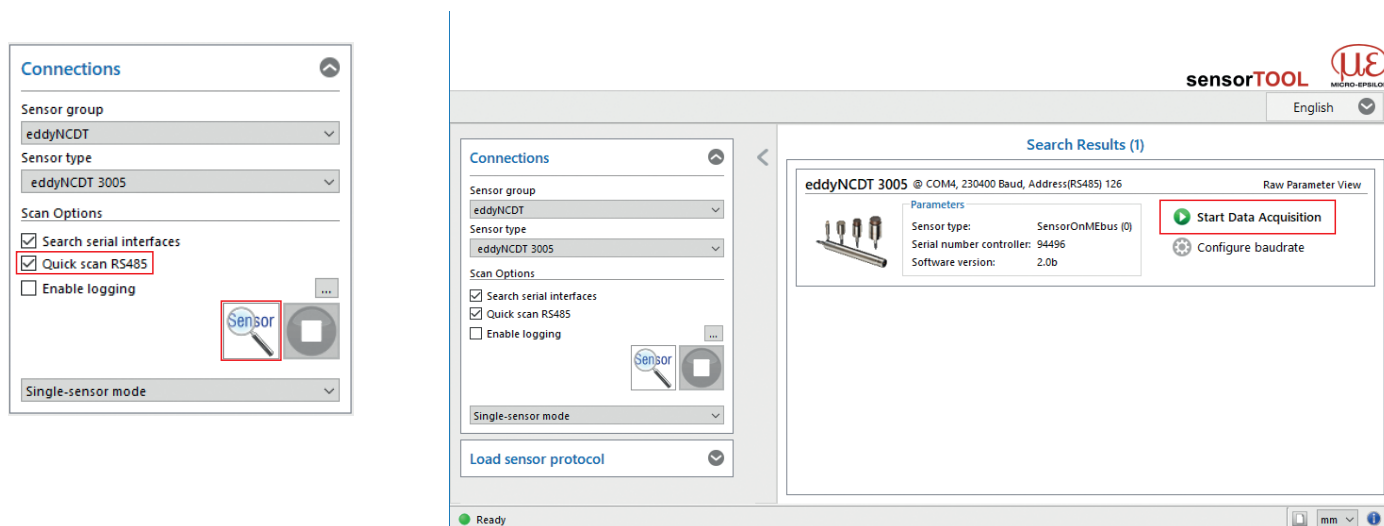

Fig. 3 First interactive site after calling the sensorTOOL
➡ Click on the **Start Data Acquisition** button or on the controller symbol, see Fig. 3 to make further settings and start data acquisition.
By clicking the **Disconnect** button you return to the controller search, see Fig. 3.
➡ To view the current configuration of the serial interface and change it if necessary, click on the `Configure baudrate`, see Fig. 3 button.
- ➡ Search for the controller via the `sensorTOOL` program, see Fig. 3.